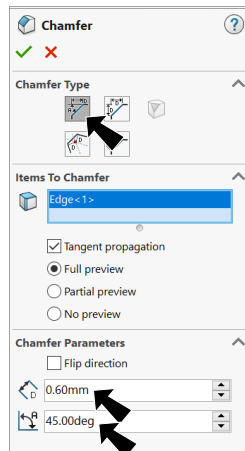

Fig. 21
- under Chamfer Type, **Fig. 21**